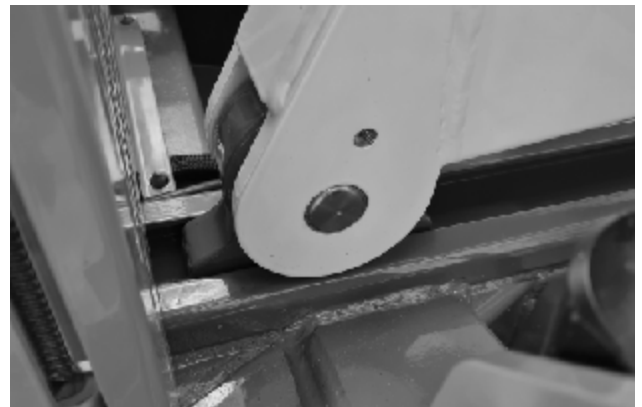

Figure 7.10 – Slider Blocks
2. Raise the platform from the lower controls and visually inspect the slide blocks underneath the front of the platform (refer to Figure 7.10). There is one slide block on each side of the platform. The slide blocks must be in good condition and free to move without obstruction.